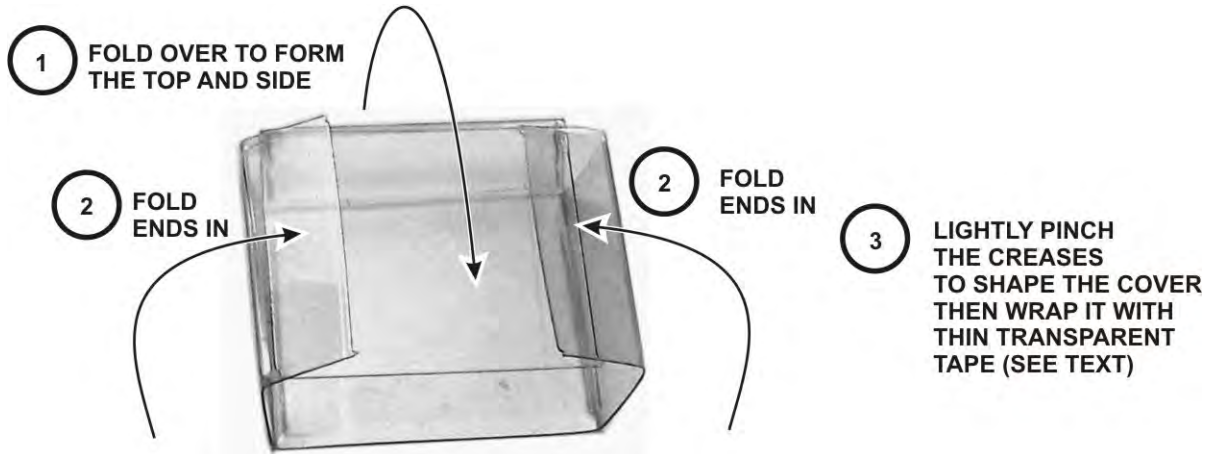
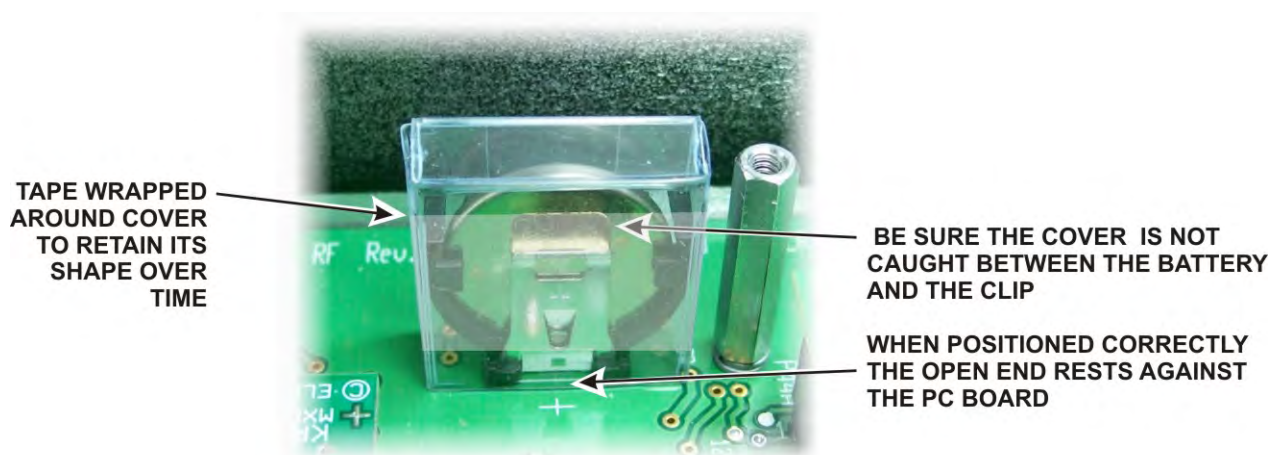

Figure 43. Folding the Battery Cover.
Figure 44. Installing the Battery Cover
- The exposed rim of Battery BT1 on the K3 main RF board must be insulated to prevent shorting against the bottom of the KRX3 enclosure. A plastic battery cover is provided. Fold the battery cover as shown in Figure 43. Pinch the creases to set the bends to form a rectangular box with one open end, then wrap the cover with thin transparent tape such as Scotch® Magic™ mending tape (see Figure 44). The tape ensures the cover holds its shape over time.
- Place the battery cover on BT1 on the K3 RF board as shown in Figure 44. Hint: gently squeeze the narrow ends of the cover to make the sides bow outward to fit over the battery clip more easily. The cover is held in place by friction against the battery holder and will be trapped under the KRX3 enclosure.
- Check to ensure the battery cover is in place protecting the top of the battery from contact with the KRX3 enclosure (see Figure 44). The top edge of the battery is the positive terminal, and touching the enclosure during installation will short-circuit the battery.